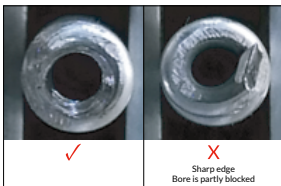

Fig 2
- Remove the liner retaining nut, twist and pull out the old liner. (Fig 2)
- Continue to feed until the liner nipple is inside the gun plug body. Fit liner retaining nut. (Fig 2, 3)
- Remove sharp burr from any internal and external surfaces from liner front-end with a file or a grinder. (Fig 2)
- Retract the liner back slightly and position the collet by tightening it to the liner at the marked position. (Fig 2)